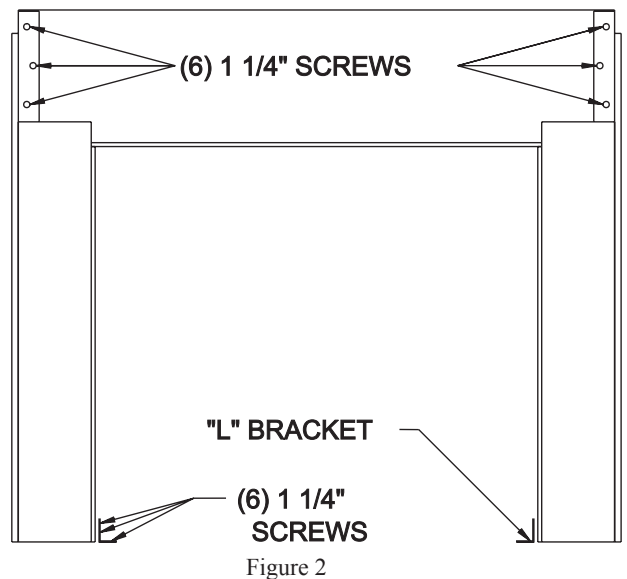

Figure 2
- Attach mantel sides to breastboard with (6) 1-1/4" screws. (See Figure 2).